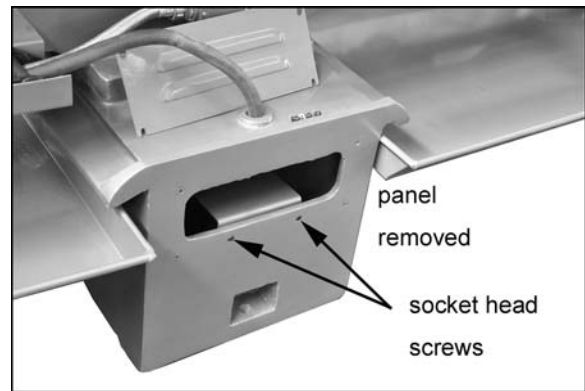

Figure 20 – Coolant pump access (GH-26120ZH)
- 2) Remove rear panel on center stand then remove the two socket head screws (Figure 20) that secure the plate on which the coolant pump is mounted.